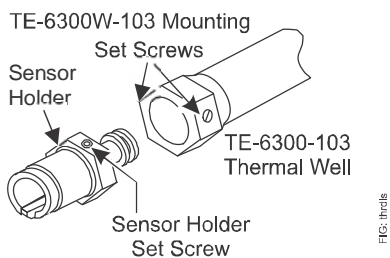
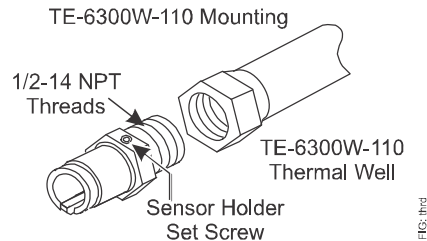

Figure 9: Installing the TE-63xAP-1 Sensor Holder
Figure 10: Installing the TE-63x2P-1 Sensor Holder
Note: See Figure 9 and Figure 10 for threadless and threaded connections.
- **TE-6300W-103** (TE-63xAP-1), see Figure 9 and loosen the two well set screws (the TE-6300W-103 contains thermal grease). Insert the sensor holder, then tighten the well set screws.
- **TE-6300W-110** (TE-63x2P-1), see Figure 10 and screw the sensor holder into the thermal well (the TE-6300W-110 does not contain thermal grease).